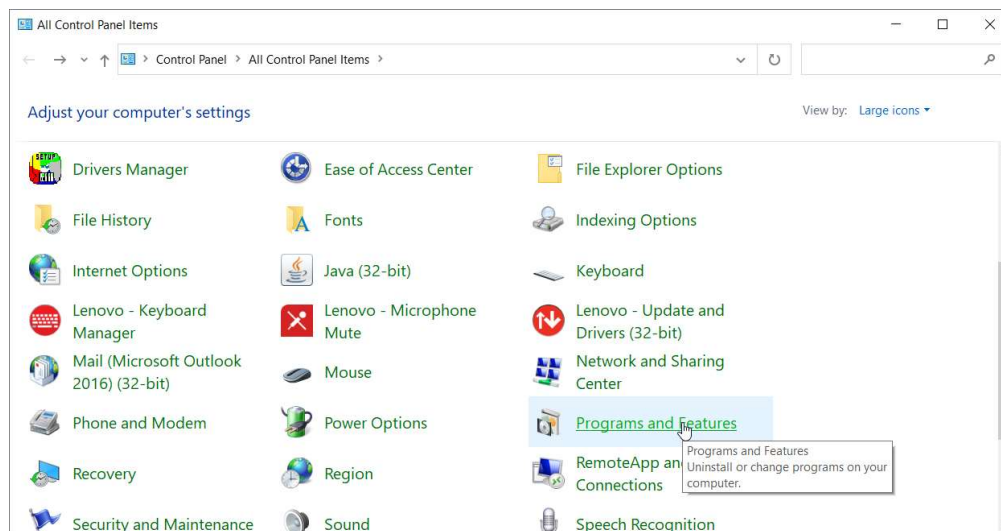

Figure 16. – Programs and Features in Control Panel.
- 3.) The correct method to uninstall is to use the Programs and Features or Add/Remove Programs via the Control Panel (See figure 16.).